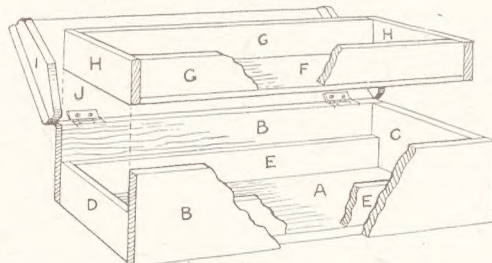

Fig. 2—Cut-away constructional detail
Allow the glue to harden, and then make the two runners (E). These are 7½ ins. long by ⅜ in. wide, by ⅜ in. thick. See that the long edges are flat and even after cutting them—our glasspaper board comes in well again for this job. Wipe one side and one edge of the two runners with glue and press them down inside the box as shown in Fig. 2. In this diagram, parts of the sides, etc. have been shown cut away to make construction clear.